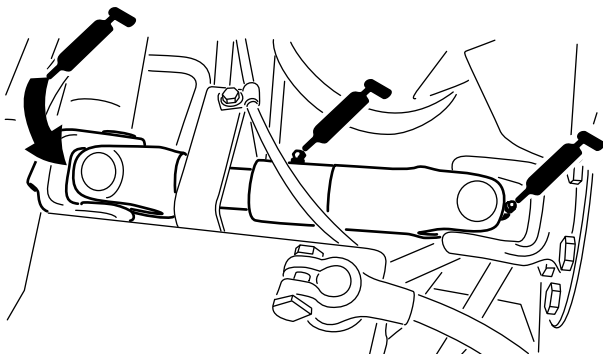

Figure 42
- Pump drive shaft U-joint (3) (Figure 42)